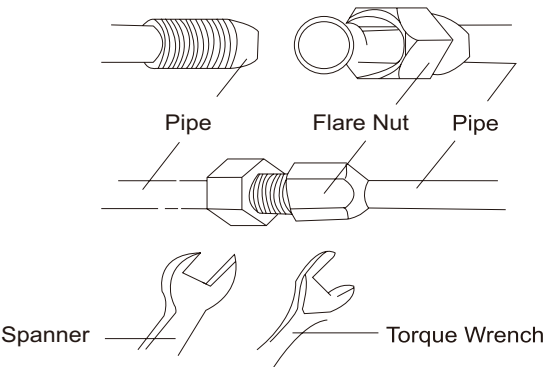

Fig.5
- After that, tighten the screw by the torque wrench unit it clatters (as shown in Fig.5).